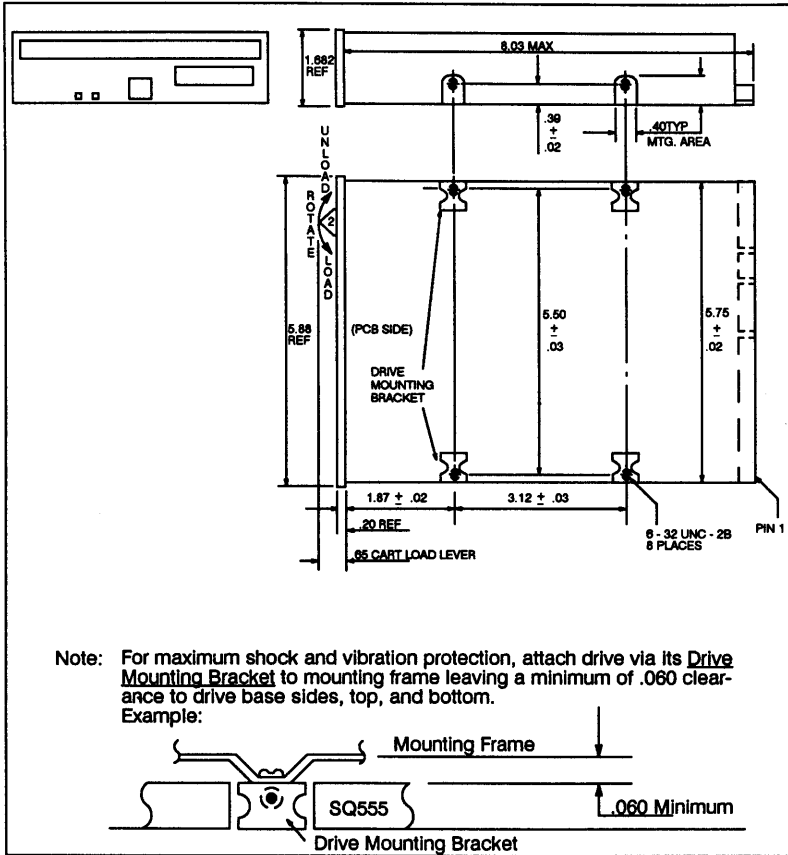

Figure 1-5. SQ555 Physical Dimensions
- e. The SQ555 approved mounting configuration is on either side or horizontal with the PCB down. Eight mounting holes are provided in the drive chassis. These holes accept 6-32 machine screws. See FIGURE 1-5.